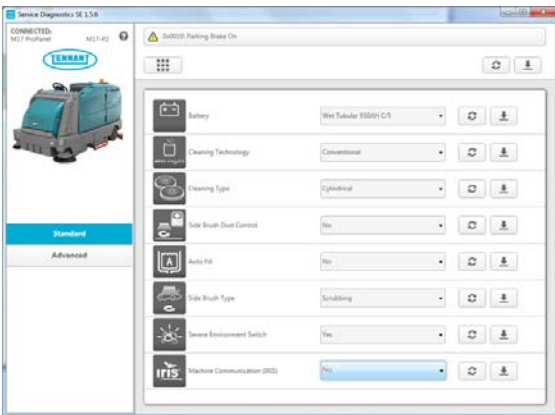

FIG. 21
- Correct the installed options. (Fig. 21)
- Press the down arrow button to program the machine. A green check appears next to the down arrow button when programmed. (Fig. 21)